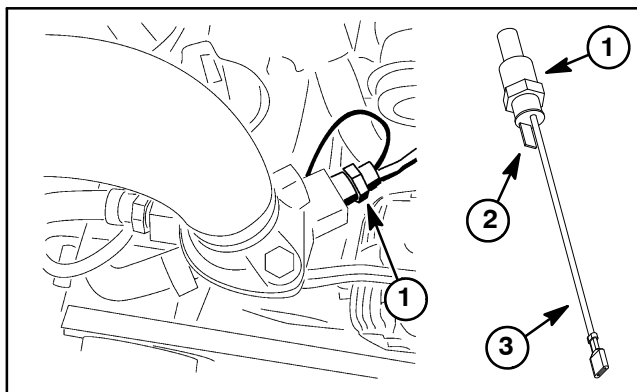

Figure 68
On Groundsmaster 360 machines equipped with an operator cab, the dual temperature switch includes two (2) normally open circuits used to monitor engine coolant temperature. These switch circuits are the high temperature warning circuit and the high temperature shutdown circuit. The dual temperature switch is attached to the engine water pump housing (Fig. 68).